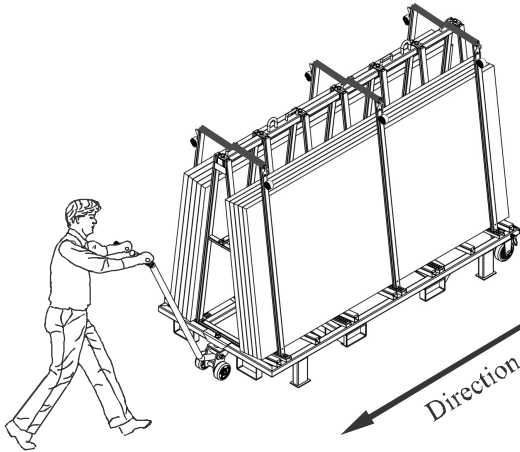

Figure 2.1
a) Pulling the One Stop A-frame (Figure 2.1).
Lift the A-frame by forklift truck, then remove the 2 casters and put them inside the A-frame as shown by figure 2.1.